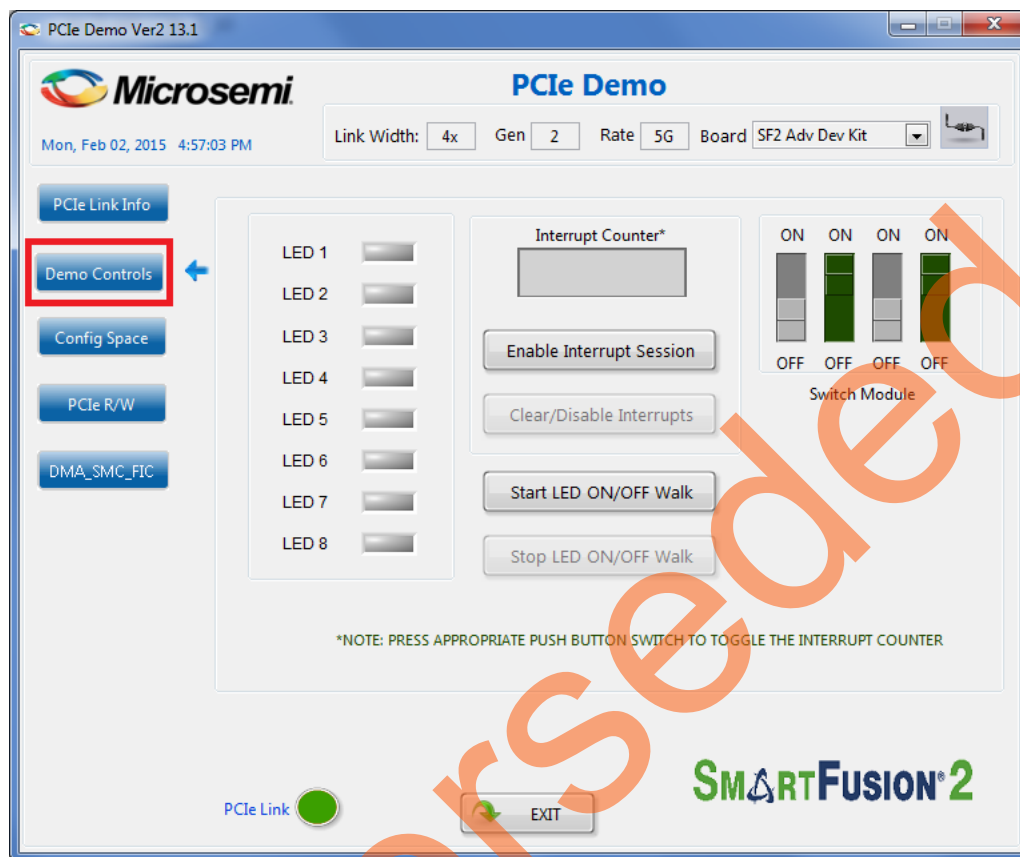

Figure 20 • LED Options and DIP Switch Positions in Demo Controls
5. Click **Demo Controls** to display the LEDs options and DIP switch positions. Figure 20 shows the LED options and DIP switch positions in **Demo Controls**.